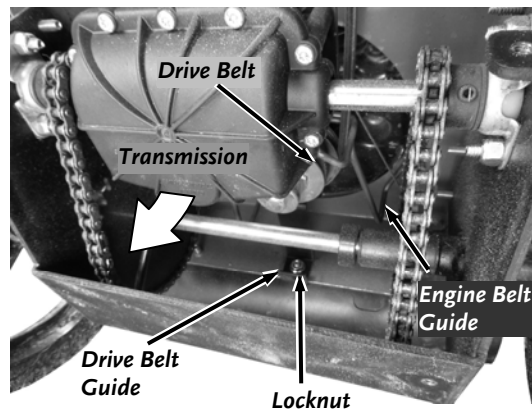

Figure 35
8. Loosen the rear Drive Belt Guide Locknut using a 7/16" Socket w/Ratchet and rotate the Guide out of the way (Figure 35).
16. Rotate the rear Drive Belt Guide into position centered behind the Engine Pulley and tighten the Locknut with a 7/16" Socket w/Ratchet (**Figure 35**).